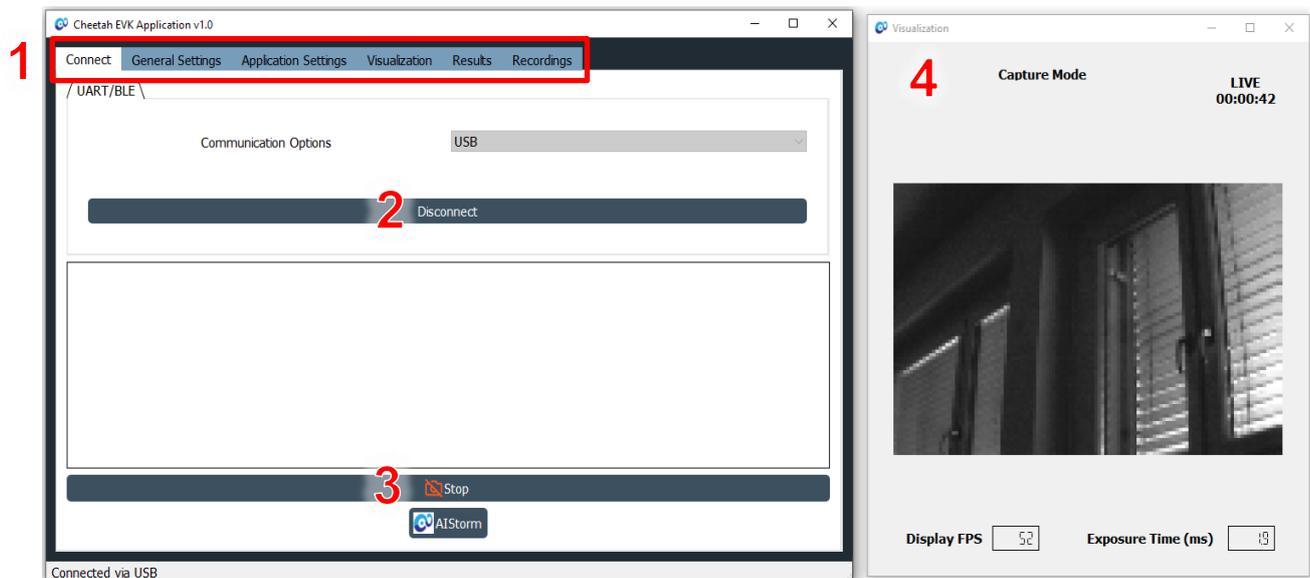

Figure 8: Main Control Panel of Cheetah EVK Application
3. The GUI of Cheetah EVK Application v1.0 right after start-up is shown in Figure 8:
Here is an explanation of the main control elements from Figure 8: